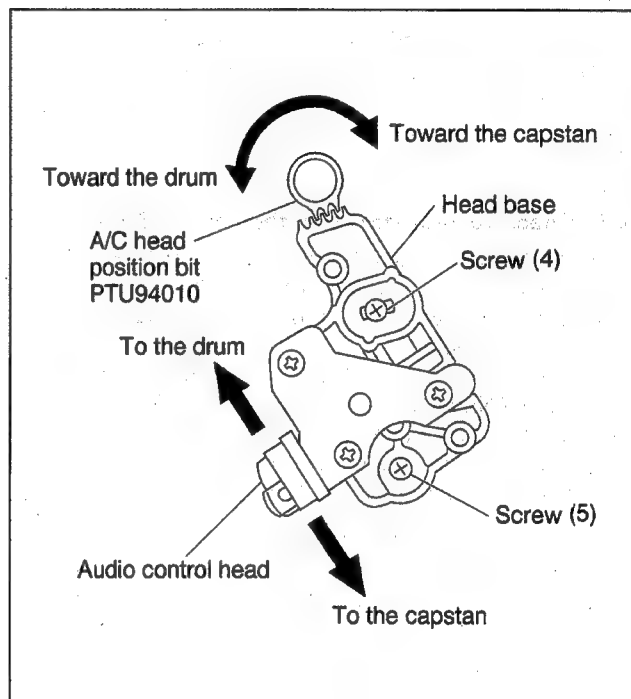

Fig. 2-4-6
- (1) Connect the oscilloscope to TP106(PB FM/COL) of the main board assembly and to TP111(D.FF) of the main board assembly for external sync connection.
- (2) Play the alignment tape MHP and observe the FM waveforms.
- (3) Press the channel buttons (+) and (-) buttons simultaneously during playback to enter the manual tracking mode (This also brings tracking to the center.)
- (4) Loosen screws (4) and (5) so that the A/C head position bit (PTU94010) is set as indicated in Fig.2-4-6.
- (5) Turn the A/C head position and first move the audio control head fully up to the capstan head. Then gradually return the audio control head toward the drum and stop it where the FM waveform reaches its maximum for the first time. Then tighten screw (4) temporarily.
- (6) Then play the alignment tape MHP-L.
- (7) Press the channel buttons (+) and (-) buttons simultaneously during playback to enter the manual tracking mode (This also brings the tracking to the center.)
- (8) Perform the tracking operation and make sure that the FM waveform is at its maximum.
- (9) If it is not at maximum, loosen the temporarily tightened screw (4) and turn the A/C head position bit to bring the audio control head to a position, around where the waveform reaches its maximum for the first time. Then tighten screws (4) and (5).